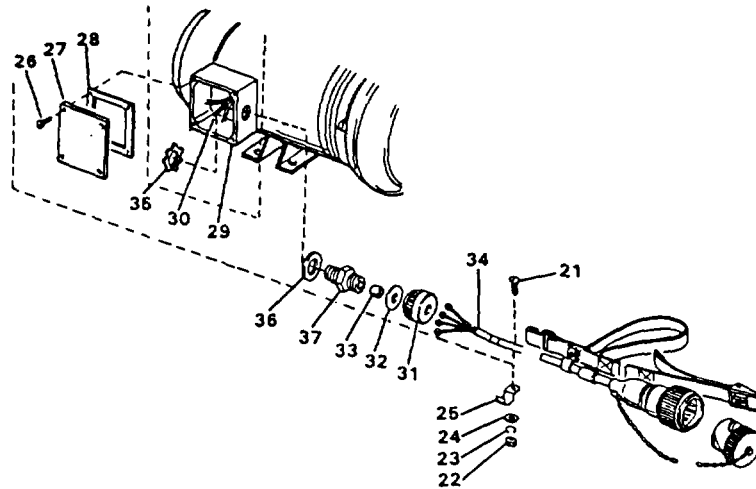

Figure 4-102. Distribution Pump and Motor Assembly (sheet 2 of 5)
- (3) Pull five sets of wires from conduit box (29). Tag and disconnect as shown in illustration (Figure 4-102, sheet 2).
- (4) Remove one screw (30, sheet 2) holding ground cable to conduit box (29).
- (5) Loosen nut (31) and slide nut (31), washer (32) and rubber bushing (33) back on cable (34).
- (6) Remove conduit nut (35) and pull cable (34) through conduit box (29).
- (7) Slide nut (31), washer (32) and bushing (33) from cable (34).